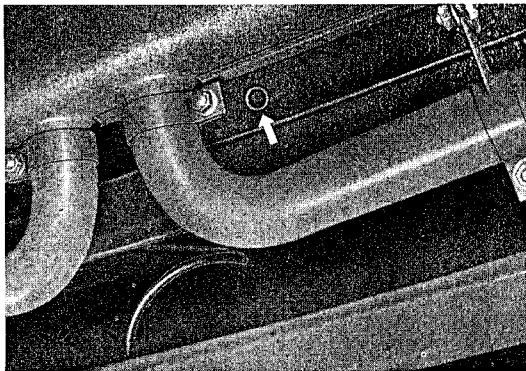

Fig. 17
1. Remove the rubber plug from below (Fig. 17).